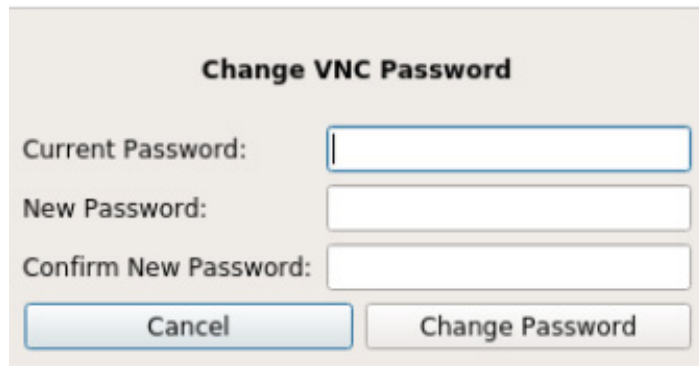

Figure 43 Change VNC Password Dialog-Box
- 5 The *Change VNC Password* dialog-box appears. (Figure 43)